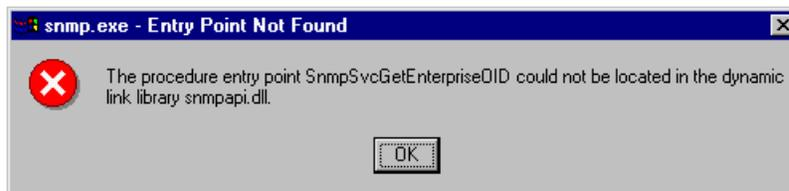

Figure 144. SNMP Error Pop-up — Reapply the Service Pack
6. Install or re-install your Windows NT Service Pack 3. If you do not do this, you will get an event log entry telling you that the SNMP service cannot find the file \SYSTEM32\INETMIB1.DLL and you will get the pop-up message seen in Figure 144.